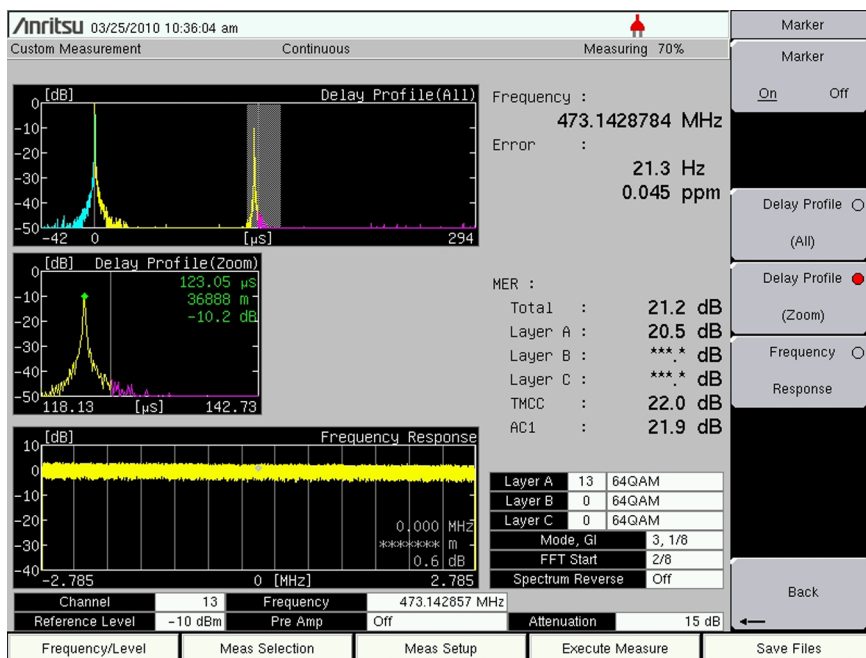

Figure 4-14. Modulation Analysis – Delay Profile
5. Press the desired #_dB units submenu key to set the y-axis of the Delay Profile (All) and Delay Profile (Zoom) graphs. Refer to Figure 4-14 for an example of these graphs.
The blue range (as shown in Figure 4-14) shows signals that are delayed less than 0 μs if the largest signal (not necessarily the least delayed) is set at 0 μs . The yellow area shows delayed signals that are within the Guard Interval. The magenta area shows signals that are delayed beyond the Guard Interval (which are potentially problematic).
The sample image in Figure 4-14 may differ from any display on your instrument.